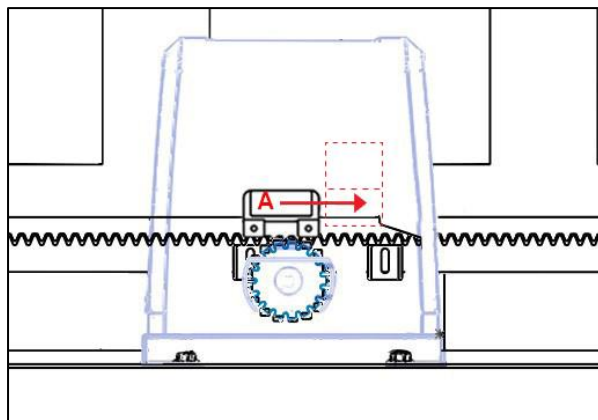

Fig 20
- Position Magnetic Limit Travel Stop A (**SMALLER**) central to the magnetic limit switch sensor on the motor (as per fig 20).